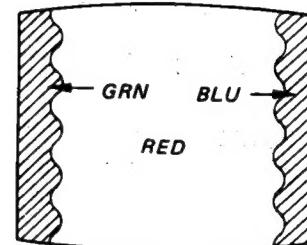

Fig. 3-2.
- Adjust purity control to center vertical red band as shown in Fig. 3-2.